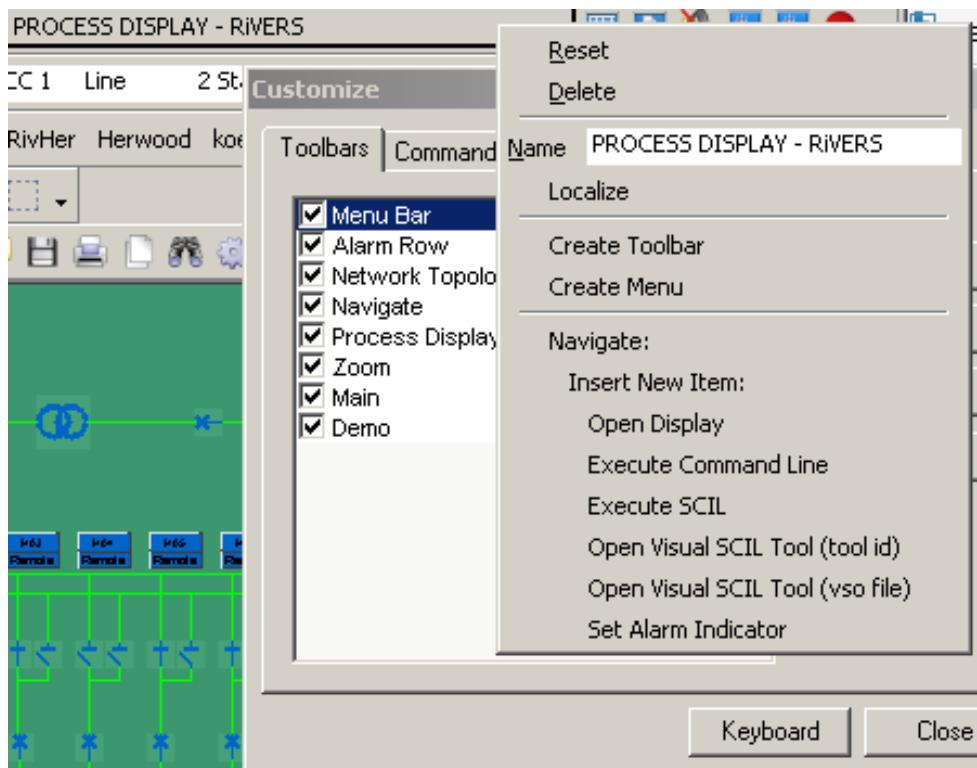

Figure 3.11: Renaming the Process Display
3. Select **Name** and enter a new name for the Process Display Figure 3.11.